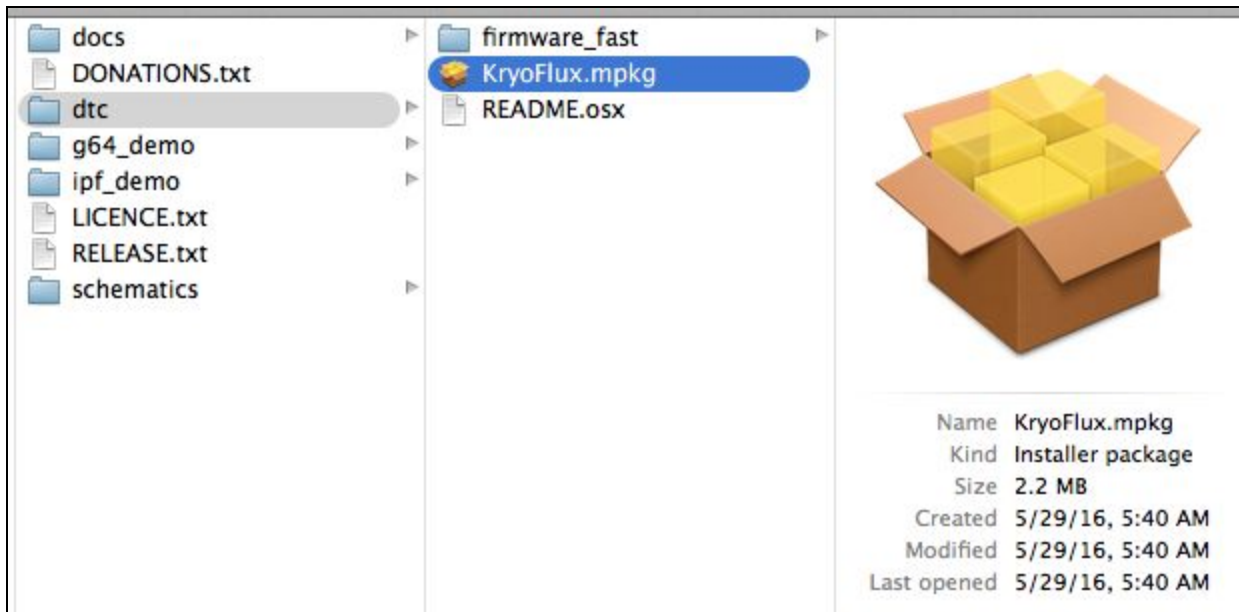

Figure 2: If using MacOSX, double-click *KryoFlux.mpkg* to install DTC.
- a. Double-click KryoFlux.mpkg (see figure 2);